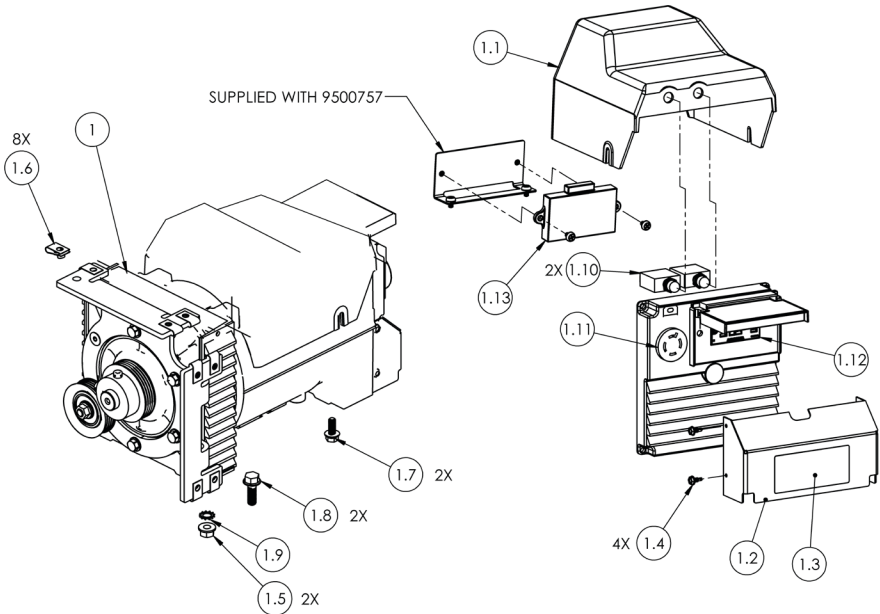

Figure 88 — Generator
2. Generator Assembly, 9500757 (Figure 88)